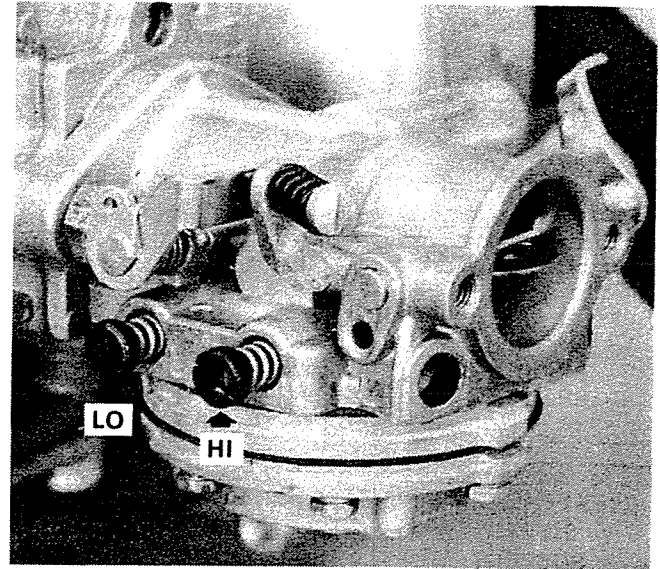

Figure 6. High Speed and Idle Screws.
1. Set both high and low speed needles at one (1) turn open before starting. Figure 6.